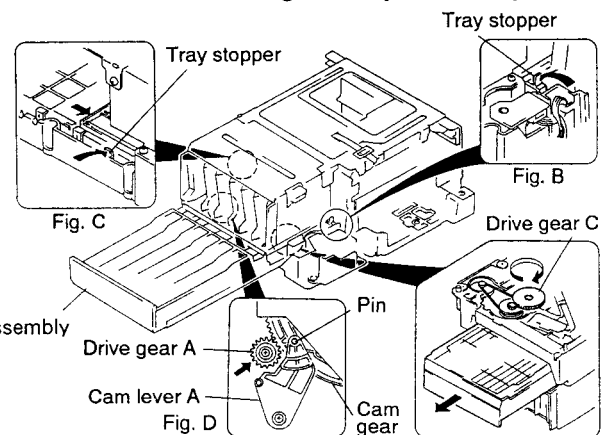

Fig. 2-3
2.3 REMOVAL OF TRAY ASSEMBLY (Refer to Fig 2-3.)